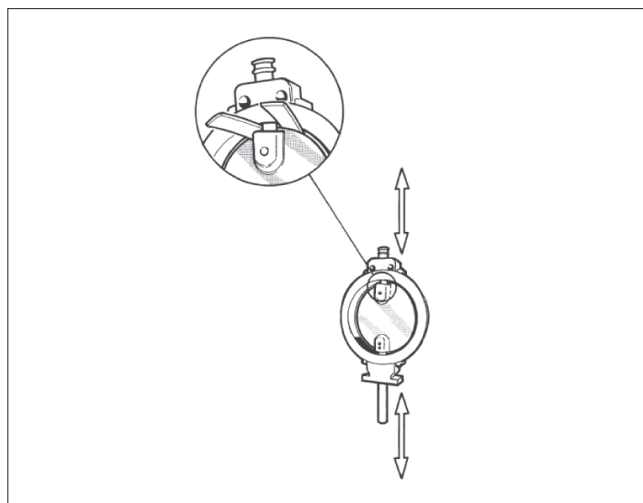

Fig. 13 Protecting the disc during disassembly and assembly
- Drill the holes carefully to the center of the pins (18). Choose a drill 0.2-0.5 mm smaller than the diameter of the pin.
- Dismantle the gland packing including anti-extrusion ring (23) according to Section 5.3.
- Detach the screws (44) and the blind flange (8) and remove the gasket (31).
- Place rubber strips or other protection between the disc edge and the body and remove the shafts (see fig 13).
- Mount the bearings (11, 12, 111, 112) into the body (1) from opposite side of the flow port.
- Place thrust bearings (14) on the trunnion shaft (6).
- Place the disc horizontally on a surface so that the flat side of the disc lays against the surface. Lift the body around the disc so that the shaft bores are aligned with the bores in the disc. Protect the disc (see Fig. 13).